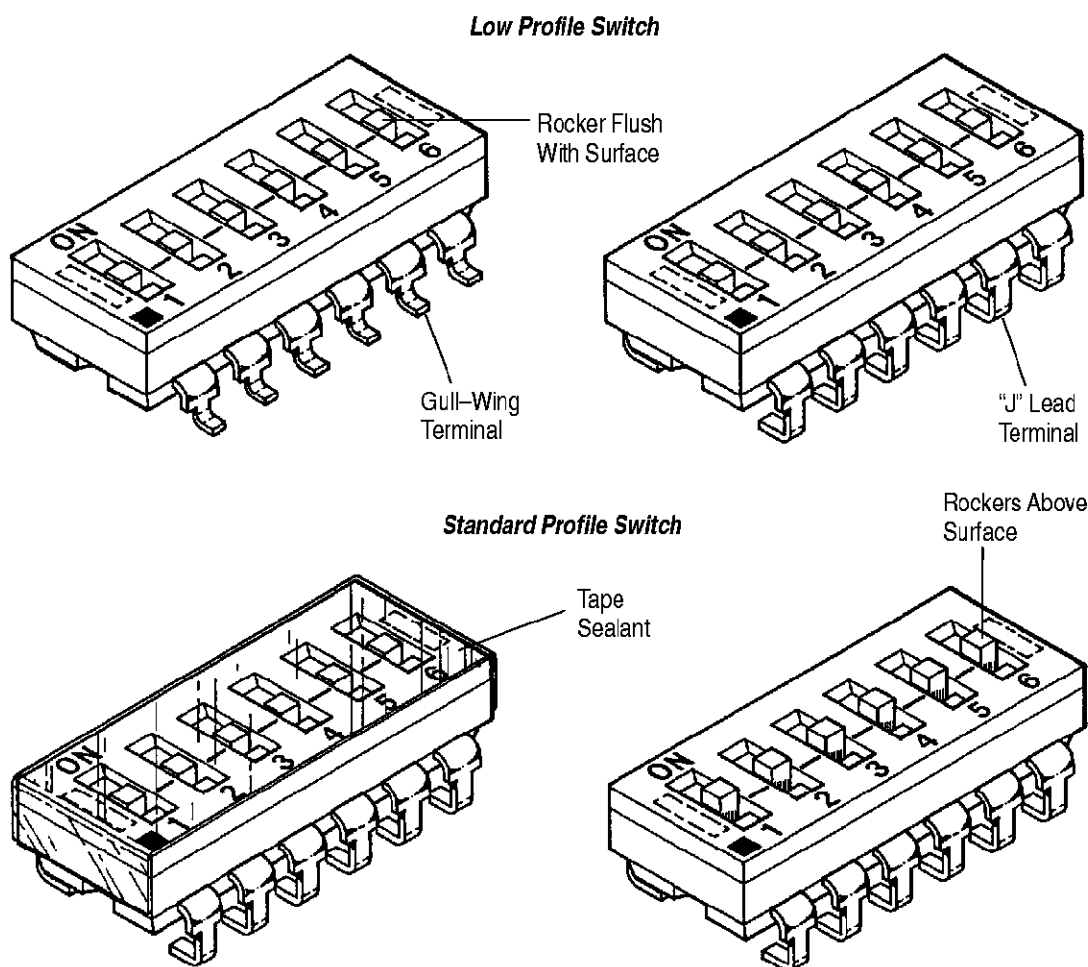

Figure 1
When corresponding with Tyco personnel, use the terminology provided in this specification to facilitate your inquiries for information. Basic terms and features of this product are provided in Figure 1.
- Revised artwork in Figures 1 and 6